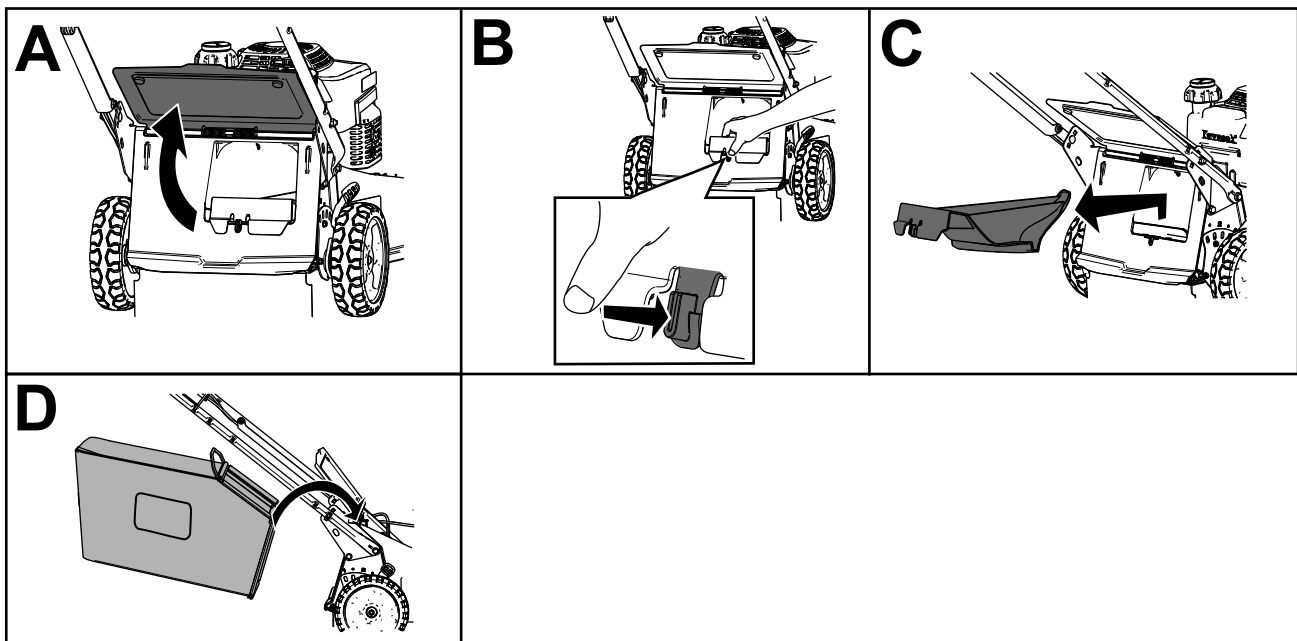

Figure 20
2. Raise and hold up the rear deflector (A of Figure 20).
3. Remove the rear-discharge plug by pushing in the latch with your thumb and pulling the plug out from the machine (B and C of Figure 20).
4. Install the bag-rod ends into the notches at the base of the handle, and rock the bag back and forth to ensure that the bag-rod ends are seated at the bottom of both notches (D of Figure 20).